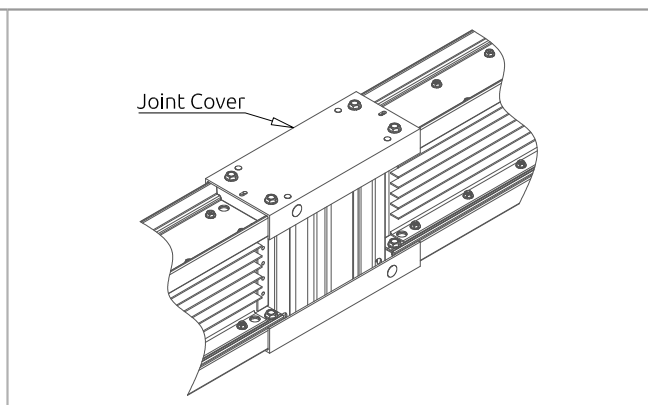

Figure 9.5
7. Installed back the top joint cover as shown in Figure 9.5